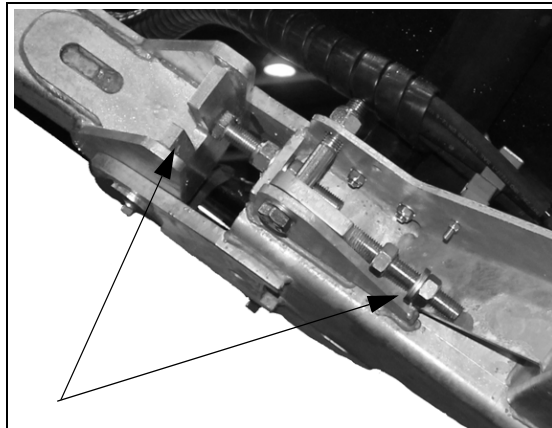

Figure 5.16
2. Open the mechanical locking (Figure 5.16)